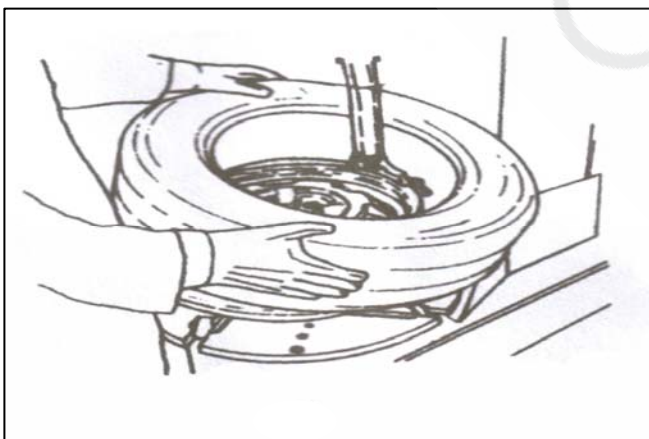

FIG 21
4.2.2 Spread the lubrication liquid or soap liquid around the lip. Tilt the tire against the rim and keep the front end upwards. Press down the hexangular shaft to move the demount arm to contact with the rim and lock. The left lip above the tail of the demount tool and the right lip will be positioned under the front end of the demount tool (FIG 21), Clockwise rotate the turntable to guide the bottom lip into the tire detaching slot.